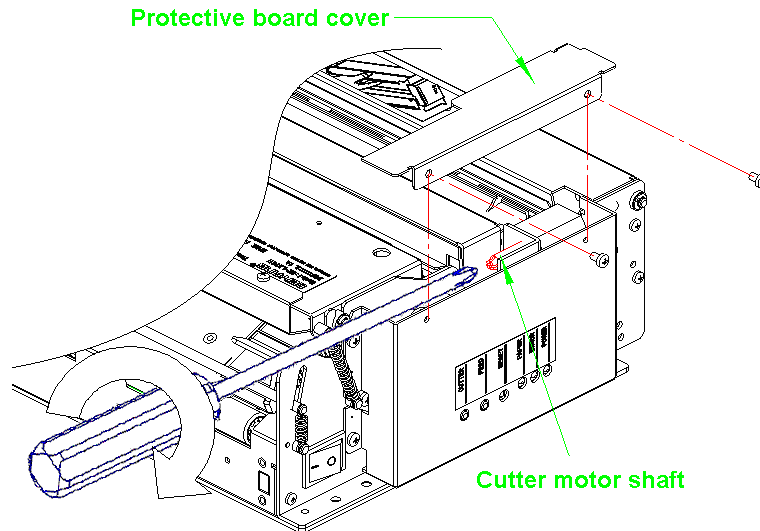

Figure 5.4.1 Manual resetting cutter
- Use cross screwdriver to rotate motor shaft, push cutter guider forward (or there is big gap between upper and lower blade) as figure 5.4.1.